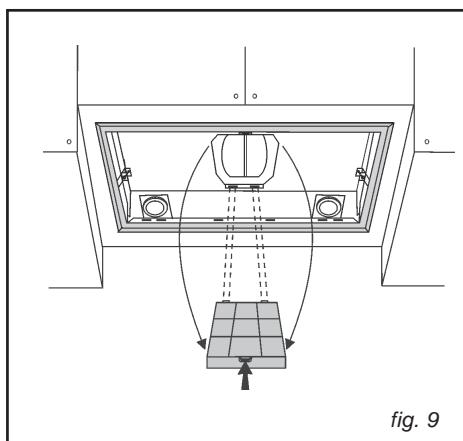

fig. 9
• Replacing the charcoal filter (Fig. 9)
clips from their seats (Fig.9).